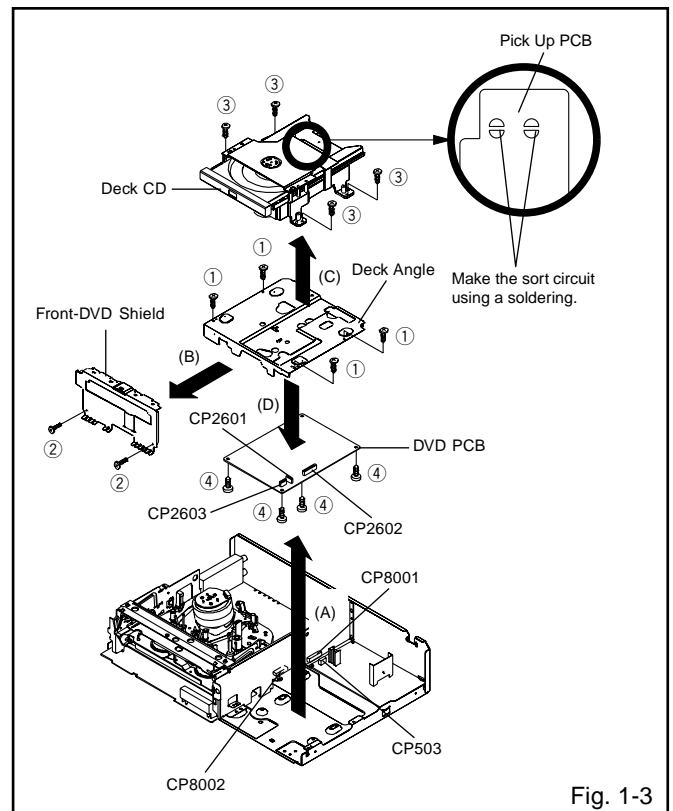

Fig. 1-3
1-3: DECK CD AND DVD PCB (Refer to Fig. 1-3)
1. Make the short circuit on the position as shown Fig. 1-3 using a soldering. If you remove the Deck CD with no soldering, the Laser may be damaged.
3. Remove the 4 screws ①.
4. Remove the Deck Angle in the direction of arrow (A).
5. Remove the 2 screws ②.
6. Remove the Front-DVD Shield in the direction of arrow (B).
7. Remove the 4 screws ③.
9. Remove the Deck CD in the direction of arrow (C).
10. Remove the 4 screws ④.
11. Remove the DVD PCB in the direction of arrow (D).